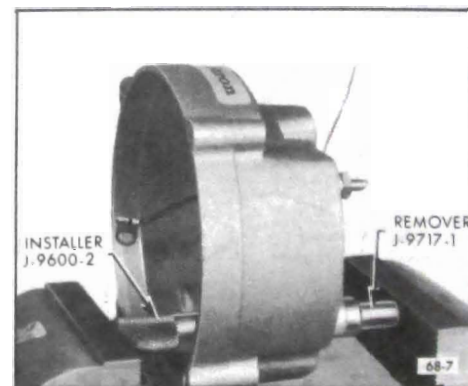

Figure 68-7--Installing a Diode
2. To install a diode, place new diode in Installer J-9600-2. Place slip ring end frame in a vise so that new diode is in position and Remover J-9717-1 supports casting. See Figure 68-7. Tighten vise to install new diode.